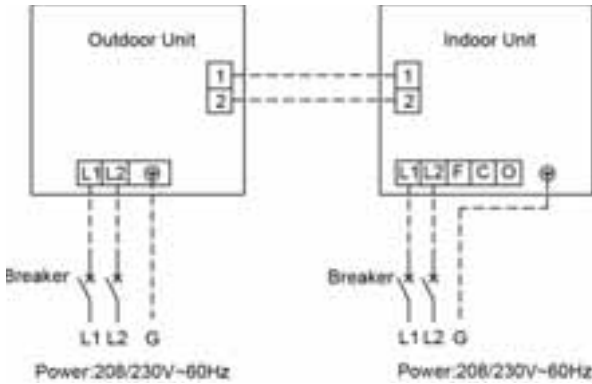

Fig. 4.40
①.	The power cord and the wire of the fresh air valve are high-voltage, while the communication cord and connection wire of the wired controller are low-voltage. They should run separately to protect against electromagnetic interference.
②.	The high-voltage and low-voltage lines should pass through the rubber rings at different electric box covers.
③.	Do not bundle the connection wire of the wired controller and the communication cord together, or arrange them in parallel, otherwise improper operation would occur.
④.	The high-voltage and low-voltage lines should be fixed separately and securely, with internal big clamps for the former and small clamps for the latter.
⑤.	Tighten the indoor/outdoor connection cord and power cord respectively on the terminal boards with screws. Faulty connection may cause a fire.
⑥.	If the indoor unit connection cord (to the outdoor unit) and power supply are wired incorrectly, the air conditioner may be damaged.
⑦.	Connect the indoor unit connection cord properly based on the corresponding marks as shown in Fig. 4.40.
⑧.	Ground both the indoor and outdoor units by attaching a ground wire.
⑨.	Unit shall be grounded in compliance with the applicable local and national codes.